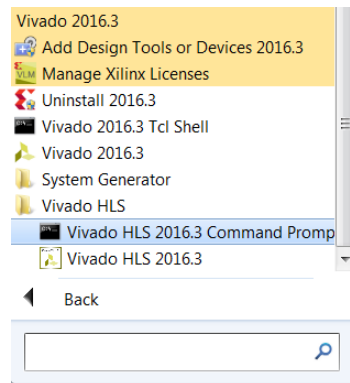

Figure 10-1: Vivado HLS Command Prompt
- On Windows use **Start > All Programs > Xilinx Design Tools > Vivado 2017.4 > Vivado HLS > Vivado HLS 2017.4 Command Prompt** (Figure 10-1).